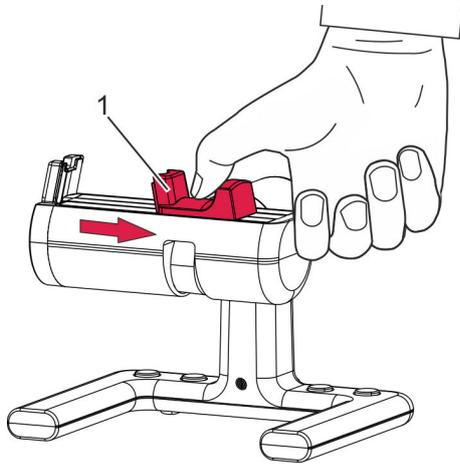

Fig. 13: Tightening the clamping jaws
1. ➔ Pull the clamping jaw (Fig. 13/1) outwards and hold it.